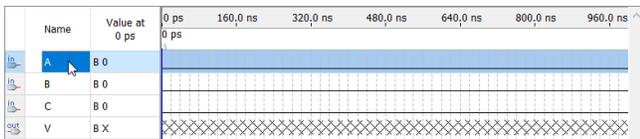

Figure 26. Waveform after selecting input A.
8. Highlight **A** by clicking on the input port symbol of the port name (Figure 26).